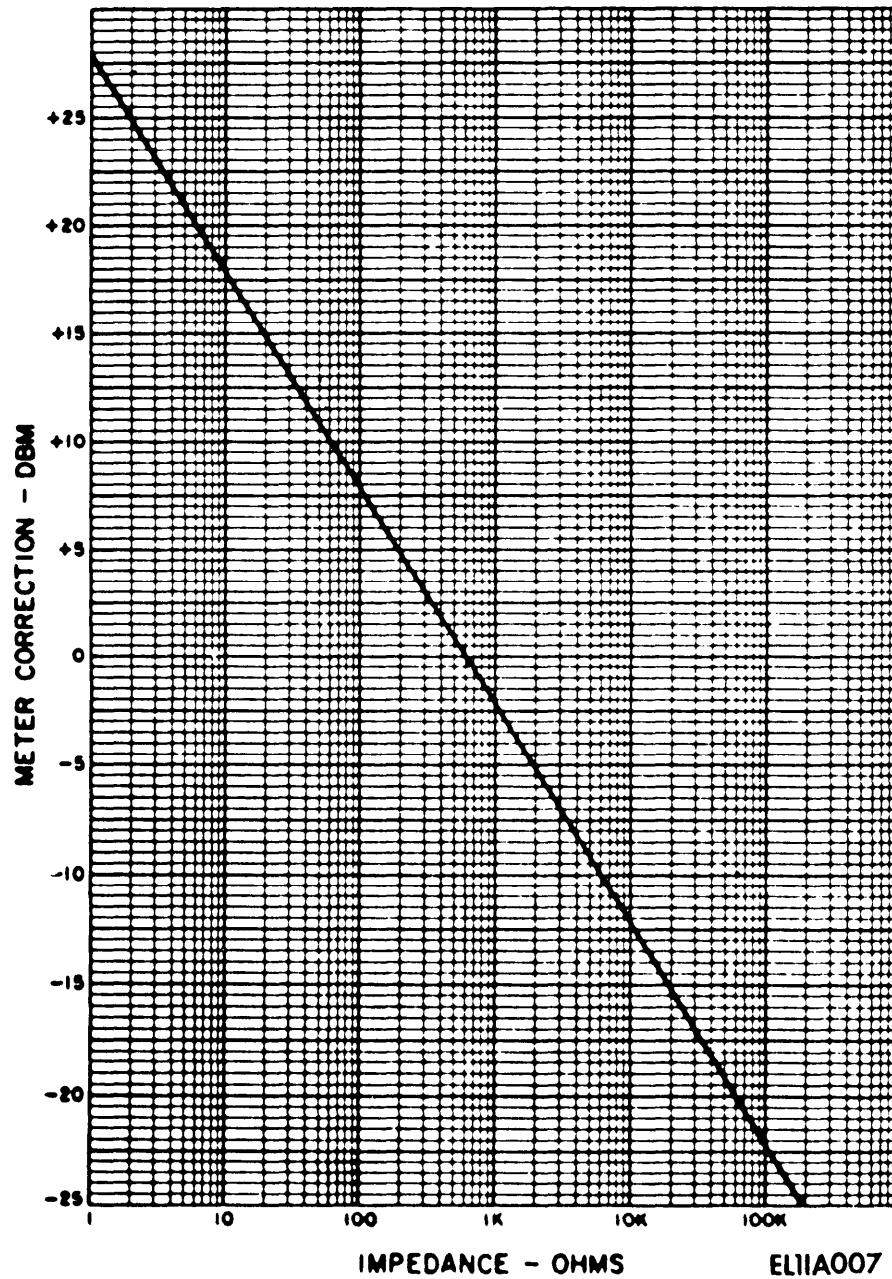

Figure 3-4. Impedance correction graph.
e. To convert a dB reading to dBm, use the impedance correction chart, figure 3-4. *For example:* To convert +30 dB reading made across 50 ohms to dBm, locate the load impedance on bottom of the graph. Follow the impedance line until it bisects the heavy line and read the meter correction at that point. The correction for 50 ohms is +10.5 dBm, and therefore the corrected reading is (+30) + (+10.5) = +40.5 dBm.